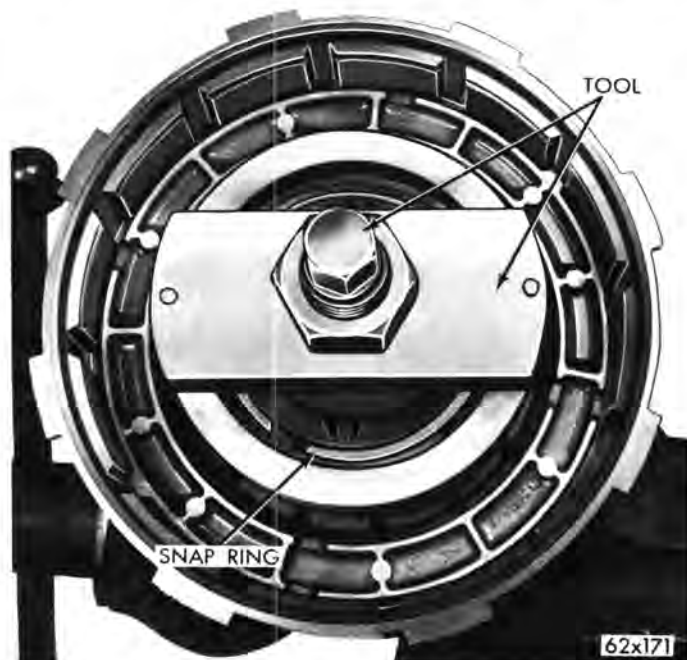

Fig. 93—Removing or Installing Front Clutch Spring Retainer Snap Ring
(1) Using a screw driver, remove the large snap ring that secures the pressure plate in the clutch piston retainer. Lift the pressure plate and clutch plates out of the retainer.
(2) Install compressor, Tool C-3863 over the piston spring retainer, as shown in Figure 93. Compress the springs and remove the snap ring, then slowly release the tool until the spring retainer is free of the hub. Remove the tool, retainer and springs.
(3) Invert the clutch retainer assembly and bump it on a wood block to remove the piston. Remove the seals from the piston and clutch retainer hub.
(3) Place the 10 springs on the piston hub exactly as shown in Figure 95. Position the spring retainer and snap ring on the springs. Compress the springs with Tool C-3863 (Fig. 93), and seat the snap ring in the hub groove. Remove the compressor tool.